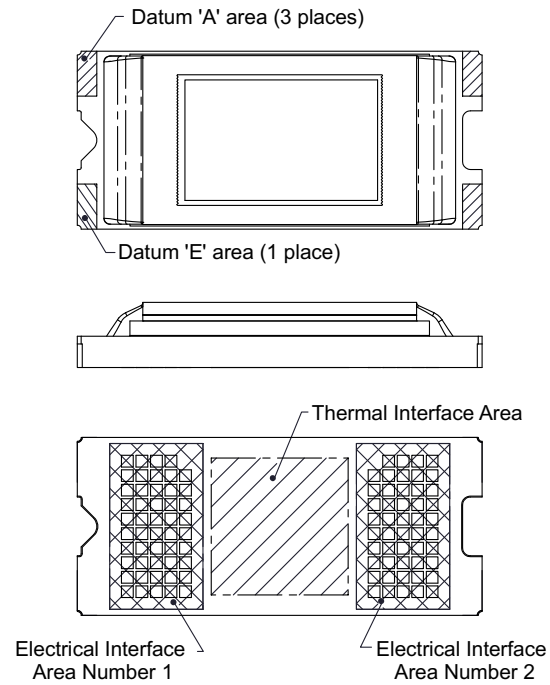

Figure 4. System Interface Loads for FQD
(1) See and 机械、封装和可订购信息 for diagrams.
(2) See Mounting Concepts DLP4500FQE.
(3) See and Figure 4 for diagrams.
(4) See Mounting Concepts DLP4500FQD.